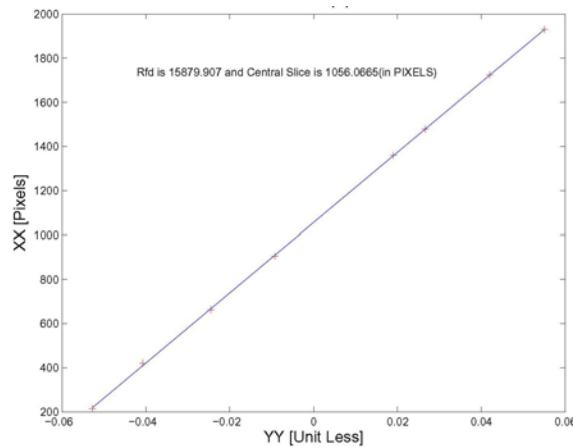

Figure 7-93
c.) Graph 14 should be an oblique straight line (Figure 7-93).